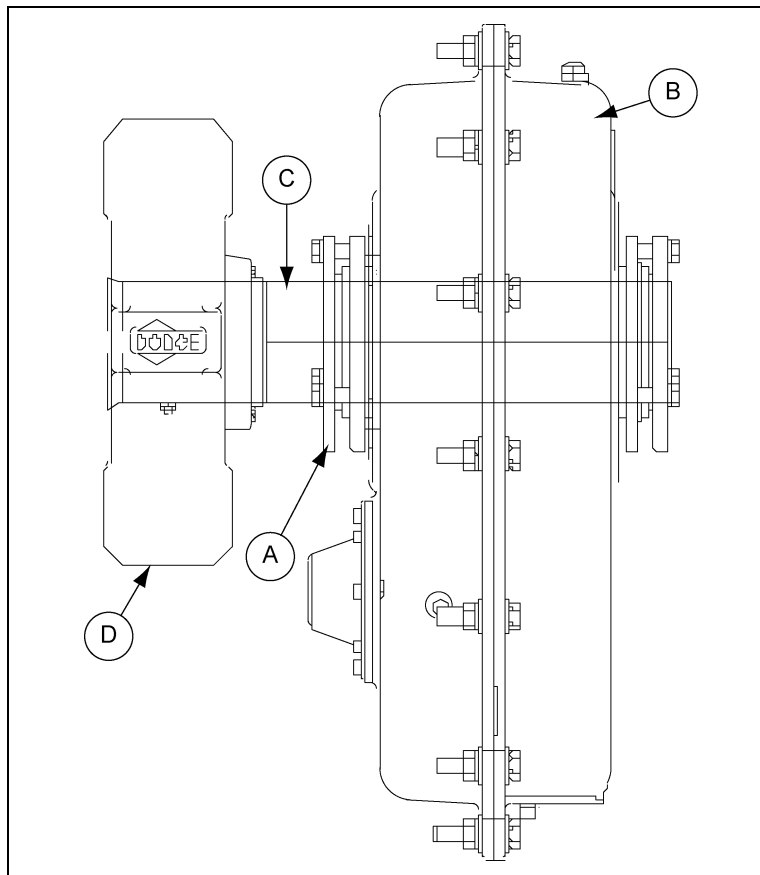

Figure 4K
1. To aid in the installation of the reducer onto the shaft, remove any protective coating film from the shaft. (See Figure 4K.)
5. Slide outside bushing onto shaft and attach to reducer drive. Once reducer drive is in place, fully tighten both bushings. (See Figure 4K.)